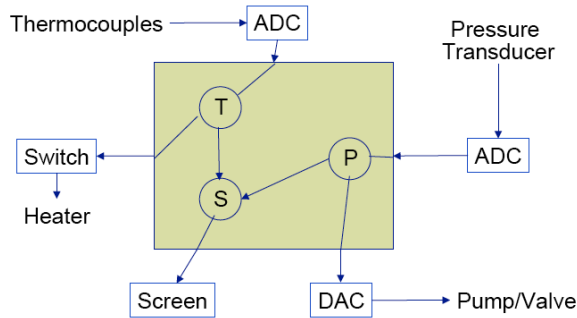

Figure 3: A simple embedded system.
3. Consider the embedded system illustrated in Figure 3 taken from the course book. In this simple embedded system T takes readings from a set of ther-